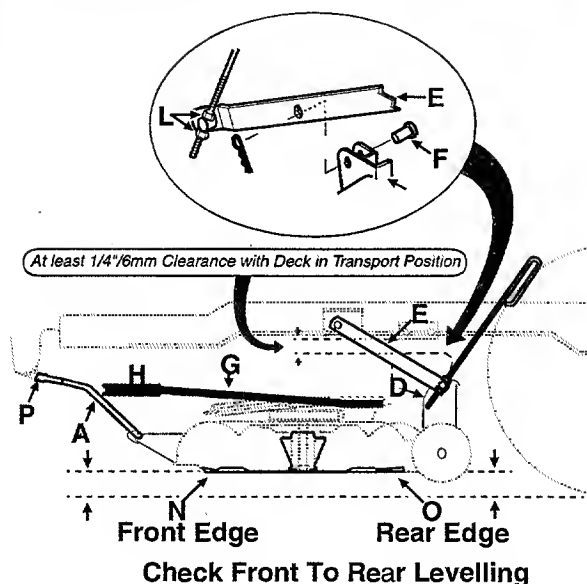

Figure 9
- Remove the hairpin clips from the clevis pins (F) on the left and right rear lift links (E). Remove the clevis pins. See figure 9.
- Remove the hairpin clips from the weld pins on the front lift rods. Slide the lift rods from the weldpins. See figure 9.